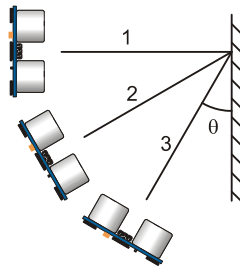

Figure 2-5
- ✓ Try standing one meter away from the wall, and point the Ping))) sensor at it, and record the measurement. Next, try pointing the Ping))) sensor at the wall at different angles, as shown in Figure 2-5. Do the values change? At what angle does the Ping))) sensor cease to detect the wall?